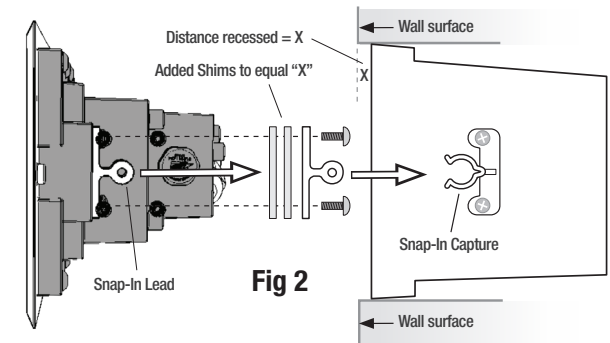

Fig 2
NOTE: Ensure Back Box face is flush with Brick face. **Fig 2**
2. Ensure that face of Back Box is flush with face of finished surface. Connect conduit to backbox using 3/4" K.O.s. **Fig 2**
- Use Shims to compensate for misalignment of the front of the Back Box and the finished wall surface. **Fig 2**